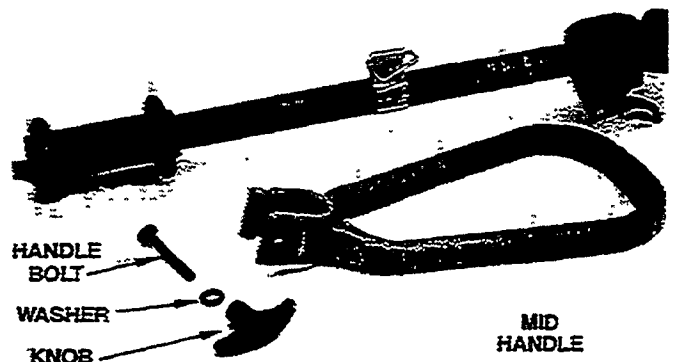
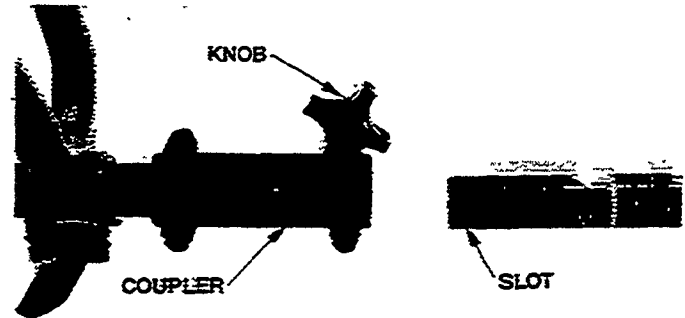
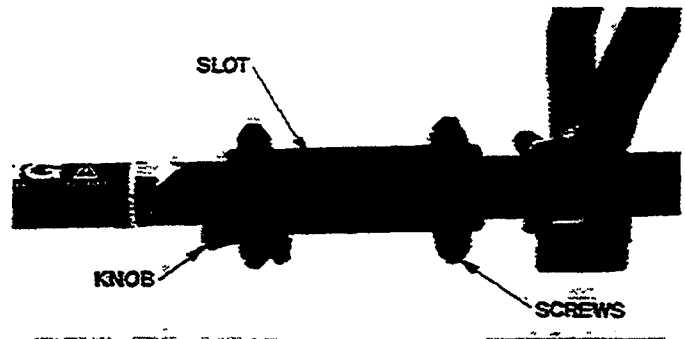

Figure 1
Figure 2
Figure 3
- Install bolt, washer, and knob (Figure 1).
- First, loosen the knob near the open end of the coupler. It is not necessary to loosen the other (3) three screws.
- Position the slot of the lower tubes as shown in (Figure 2) and slide the lower unit into the coupler until the tubes of the power unit and the lower unit solidly meet within the coupler. By looking in the slot (Figure 3) on the top, you should see both tube ends are butted together before retightening the knob. The inner driveshafts will align themselves.